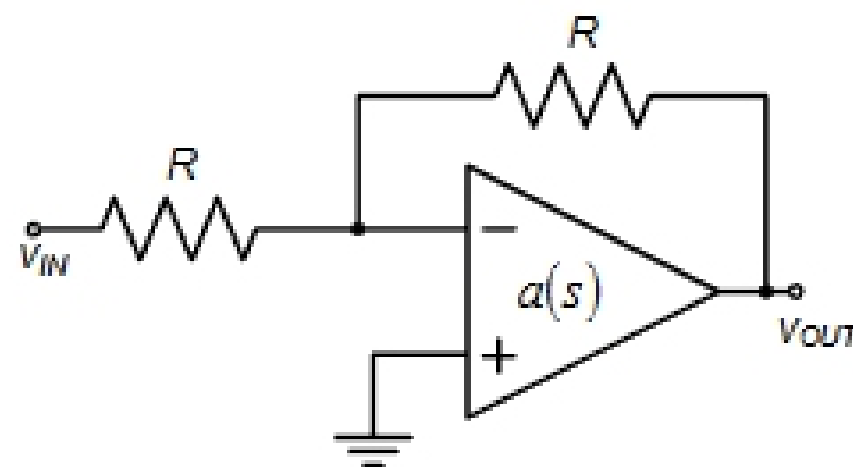

Figure PS10-2
2. The amplifier $a(s)$ has one real negative pole and is configured as an inverting feedback amplifier as shown in Fig. PS10-2.